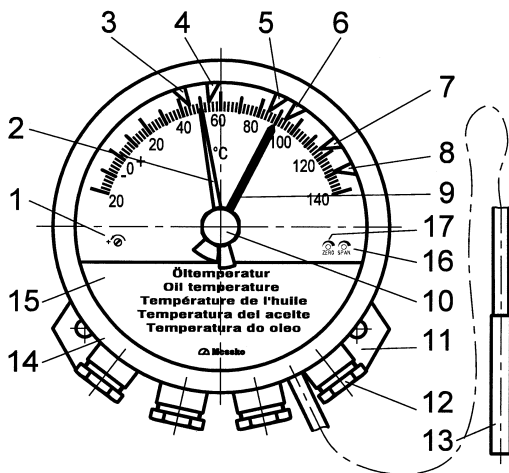

Fig.1
The pointer-type thermometer is fixed to the transformer with a mounting plate (Fig.1, Item 11). The 9mm holes are at 140mm centres. The pointer-type thermometer should be installed in a location where it will not be subject to vibration or mains voltage fluctuations. The installation is vertical.
2.3 Temperature bulb (Fig.1, Item 13)
2.4 Bayonet fixing ring (Fig.1, Item 14)
To make electrical connections and to set and test the microswitches it is necessary to remove the bayonet fixing ring. Turn it anti clockwise to the limit and then lift it off. While screwing the bayonet fixing ring make sure that the position of the maximum pointer (Fig.1, Item 9) is correct. This must be to the right of the pointer (Fig.1, Item 2). Replace the front ring and turn it clockwise to the limit.
2.5 Maximum pointer (Fig.1, Item 9)
The maximum pointer is operated by the pointer and records the maximum reading reached when measuring the temperature. The maximum pointer can be adjusted with a button (Fig.1, Item 10).